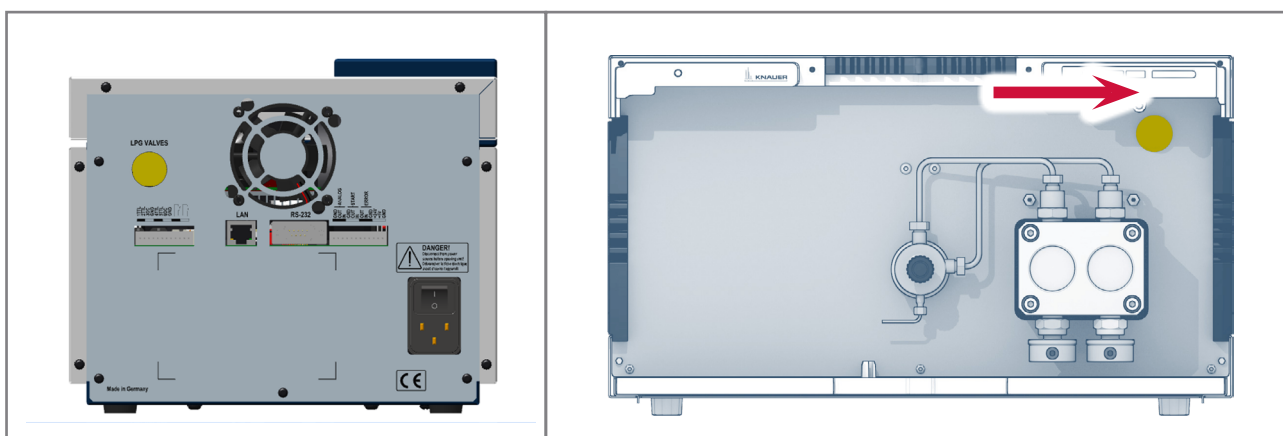

Fig. 1 LPG valve block protection cap on Blueshadow 80 P (left) and AZURA® Pump P 2.1L (right)
2. Remove the yellow protection cap (see Fig. 1).